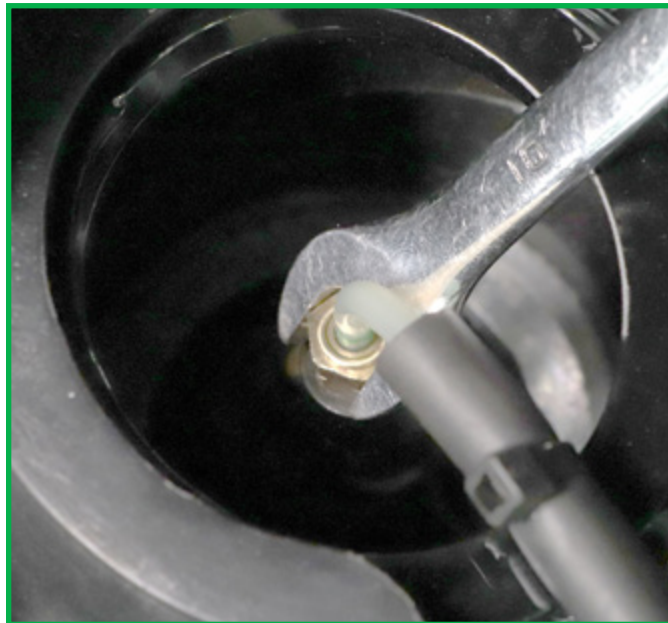

FIGURE 3
3. Slowly disconnect air line fitting from the top of the strut. (Figure 3)